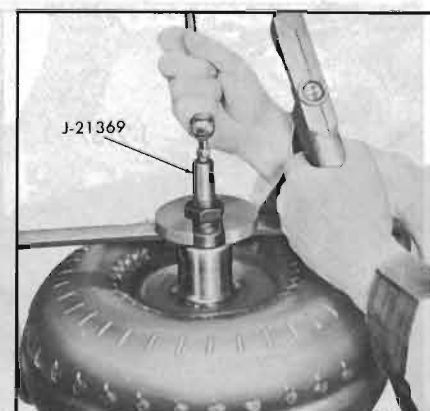

Figure 74-732
1. Check converter for leaks as follows: (See Figure 74-732.)